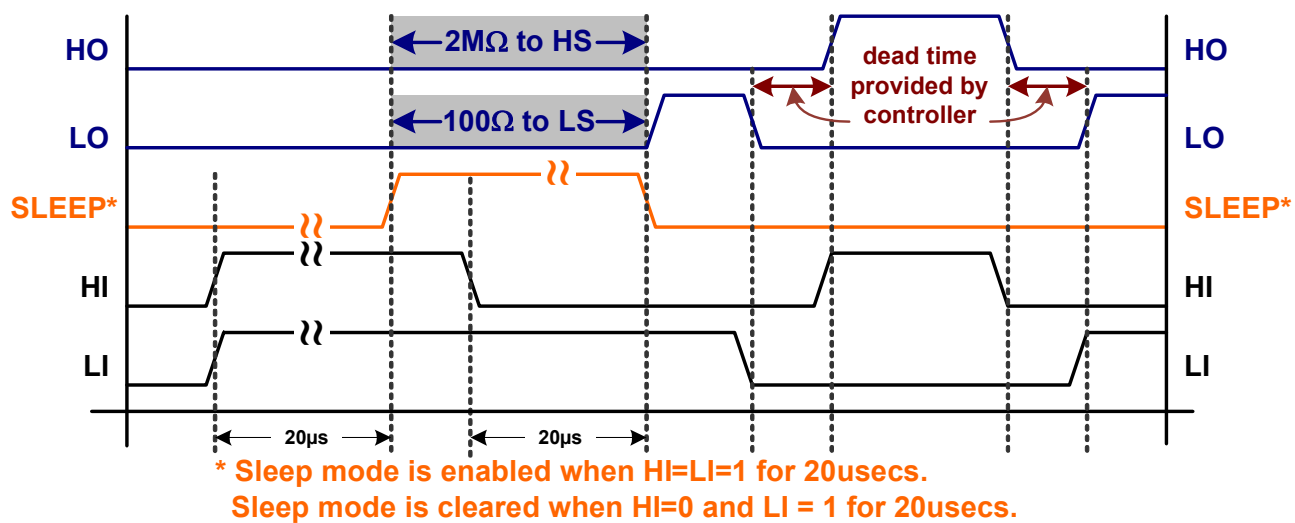

FIGURE 4. SLEEP MODE ENABLED OR CLEARED BY HI AND LI INPUTS
14. When HI and LI are on simultaneously, HO and LO are never on simultaneously. This feature is intended to initiate sleep. This feature cannot be used to prevent shoot-through for normal alternating switching between LI and HI. Dead time must be provided when HI = 0 \rightarrow LI = 1, or LI = 0 \rightarrow HI = 1. See Timing Diagrams (Figure 4).